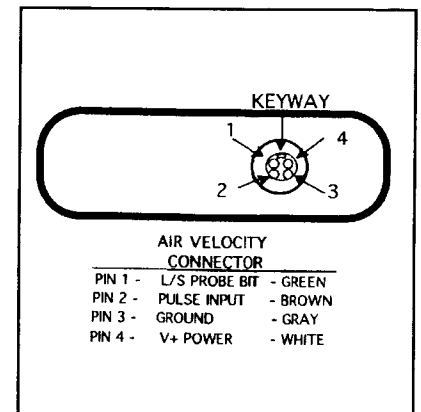

Figure 3-2. Connector Configuration
1. Attach the probe's connector to the instrument and/or cable by lining up the key to the keyway and inserting the connector. Rotate the locking collar. The 1" diameter probe connects directly to the instrument. The 2 $\frac{3}{4}$ " diameter probe connects to an extension cable that in turn connects to the instrument. Refer to Figure 3-2.